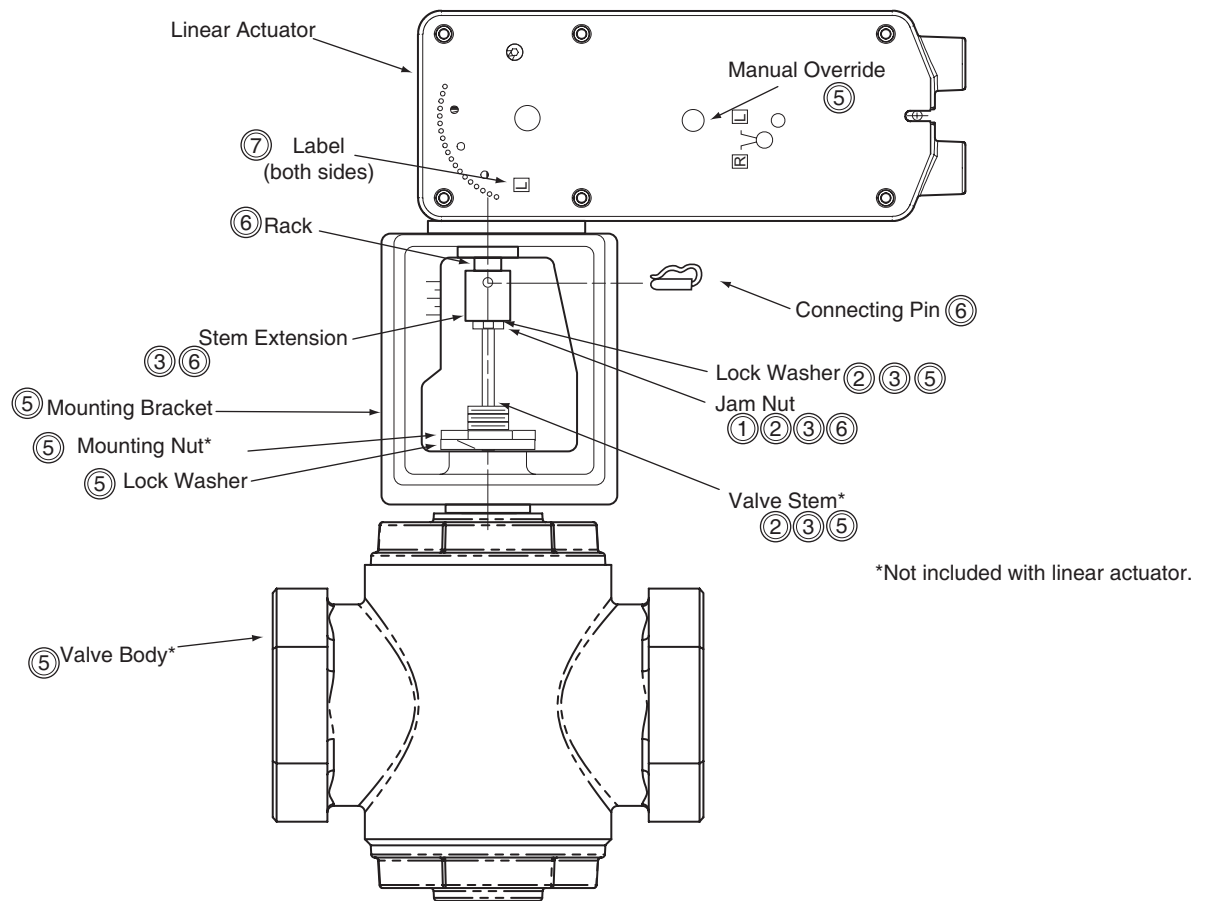

Figure-13 Typical Assembly and Installation.
- A. Install the actuator onto the valve. Set up the assembly according to the numbered steps in Figure-13.